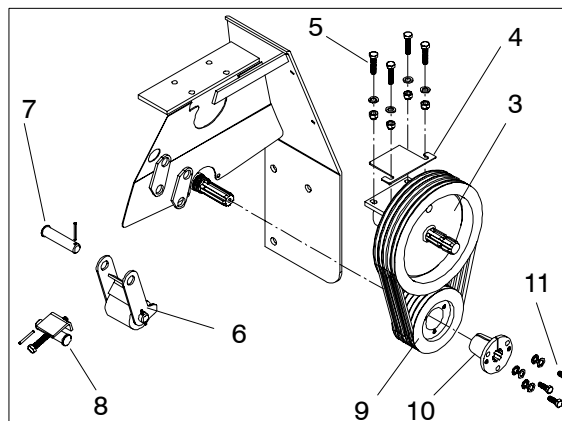
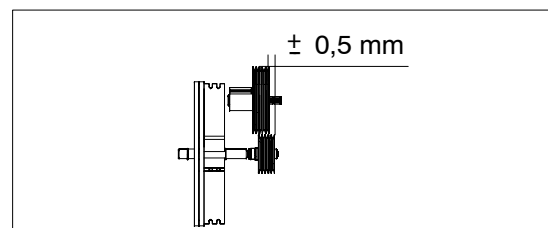

Fig 11. Installing the 160T belt transmission.
Fig 12. Belt alignment.
2. Attach the upper belt pulley assembly (3) and the regulator plate (4) to the chipper with the M12 bolts (5). Tighten the bolts lightly so that the bearing housing can be moved. See Figure 11.
3. Install the belt tightener (6) with the pin (7) and the adjusting assembly with the pin with hole (8). Secure the pins with cotter pins.
5. Push the lower belt pulley (9) onto the splined shaft without the tightening cone (10) while placing the belts into the grooves of the lower belt pulley.
6. Install the lower belt pulley tightening cone, NordLock lock washer pairs, and tightening cone bolts (M12) (11). Tighten lightly so that the lower belt pulley can be moved on the splined shaft.
7. Check the alignment of the belts – see Figure 12. Adjust the alignment of the belt pulleys by moving the upper belt pulley bearing housing and the lower belt pulley.